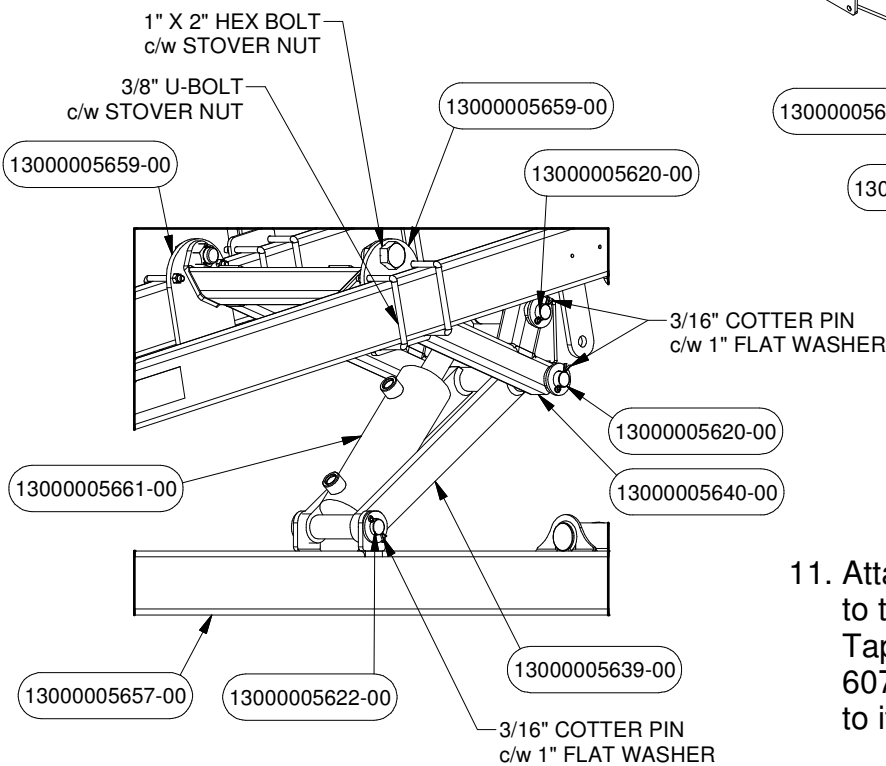

FIGURE 54
8. Attach the Scissor Lift PN# 5640 and the Hydraulic Cylinder to the Scissor Lift Arm Frame PN# 5657 using the Pins PN# 5620 c/w Cotter Pins (see Figure 54).
9. Attach the Mount Plates PN# 5659 to the Scissors Lift using Hex Bolts c/w Stover Nuts. Attach the Scissors Lift assembly to the Main Frame using U-Bolts c/w Stover Nuts (see Figure 54).
7. Attach the Scissor Lift Arm PN# 5639 and the Hydraulic Cylinder PN# 5661 to the Mover Frame PN# 5657 using a Pin PN# 5622 c/w Washers and Cotter Pins. The Hydraulic Cylinder can be found in the Hydraulic Kit PN# 5968 (see Figure 54).